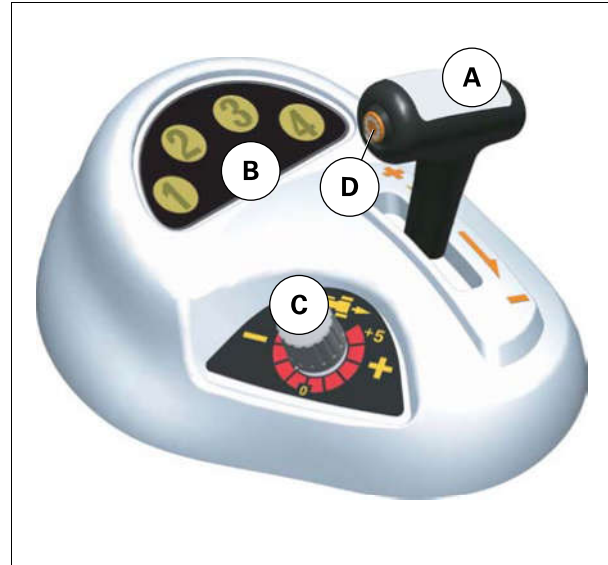

Fig. 4.
3. Place shuttle lever (E) in forward or reverse travel.
4. Move shuttle lever (E) to select the desired Powershift ratio, and also press button (D) fig. 4 to shift to a higher or lower range.
5. Move shuttle lever (E) back to neutral.
3. Keep button (D) fig. 4 pressed down.
4. Move transmission lever (A) fig. 4 to select the range and the desired Powershift ratio.
5. Release button (D) fig. 4 and the clutch pedal.
4. Keep button (D) *fig. 4* pressed down.
6. Release button (D) *fig. 4*.